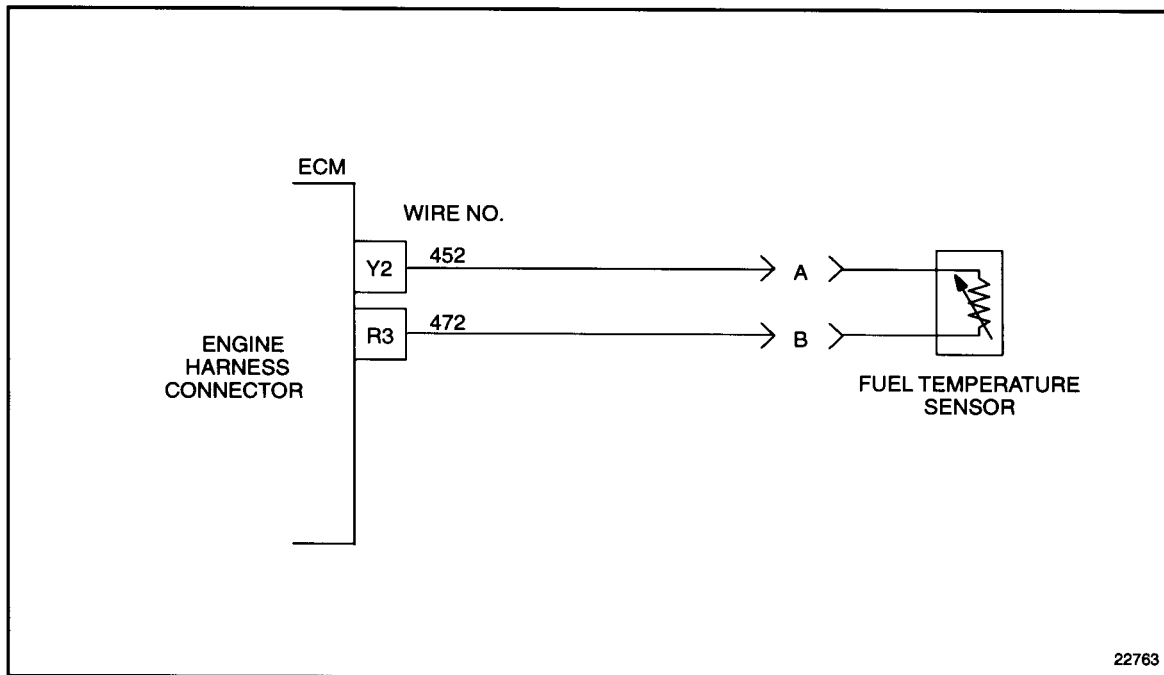

Figure 23-4 Fuel Temperature Sensor
1. Check terminals at the FTS harness connector (both sensor and harness side) for bent, corroded, and unseated pins or sockets. See Figure 23-4.